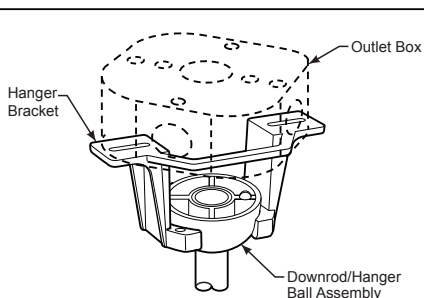

Figure 4
4. Thread downrod into the downrod support on top of the motor. Install the clevis pin by aligning the holes in the downrod support with holes in the downrod. Secure clevis pin with hairpin clip. Tighten the two set screws with screwdriver then fully tighten the nuts by hex wrench. (Figure 4)
2. Carefully lift the fan and seat the downrod/hanger ball assembly on the hanger bracket that was just attached to the outlet box. Be sure the groove in the ball is lined up with tab on the hanger bracket. (Figure 4)
3. Connect wires using connectors as shown in Figure 4.
- ☐ 4. Connect the 2 single pin connectors from the LED assembly to the 2 single pin connectors from motor assembly. (Figure 4)
- ☐ **4.** To make fan operational, install two 3V batteries (included) in hand-held remote transmitter, with fan power off. Then, follow the remote code setting process. If not used for long periods of time, remove battery to prevent damage to transmitter. Store the remote away from excessive heat or humidity. (Figure 4)